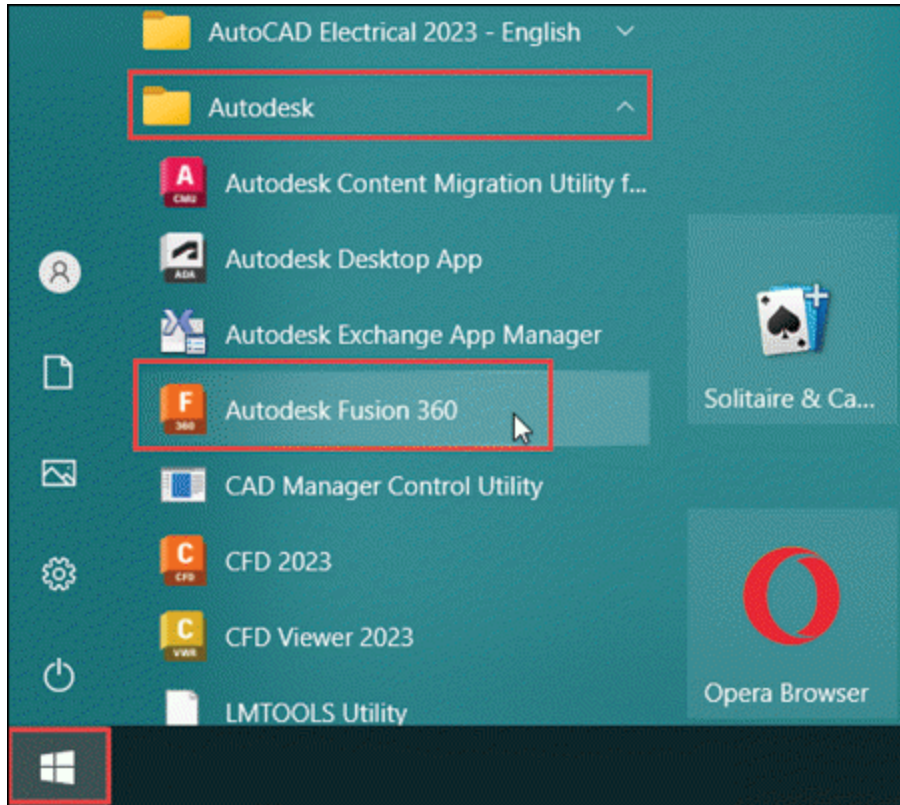

Figure-7. Start menu
- To start **Autodesk Fusion 360** from **Start** menu, click on the **Start** button in the **Taskbar** at the bottom left corner and then select **Autodesk Fusion 360** option from the **Autodesk** folder. Select the **Autodesk Fusion 360** icon; refer to Figure-7.